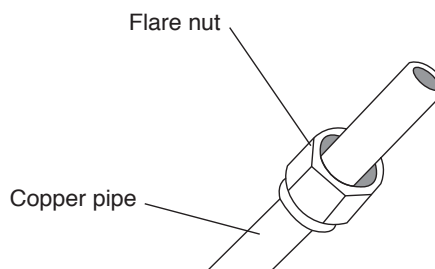

Fig. 5.3
3. Place flare nuts on both ends of pipe. Make sure they are facing in the right direction, because you can't put them on or change their direction after flaring. See Fig. 5.3